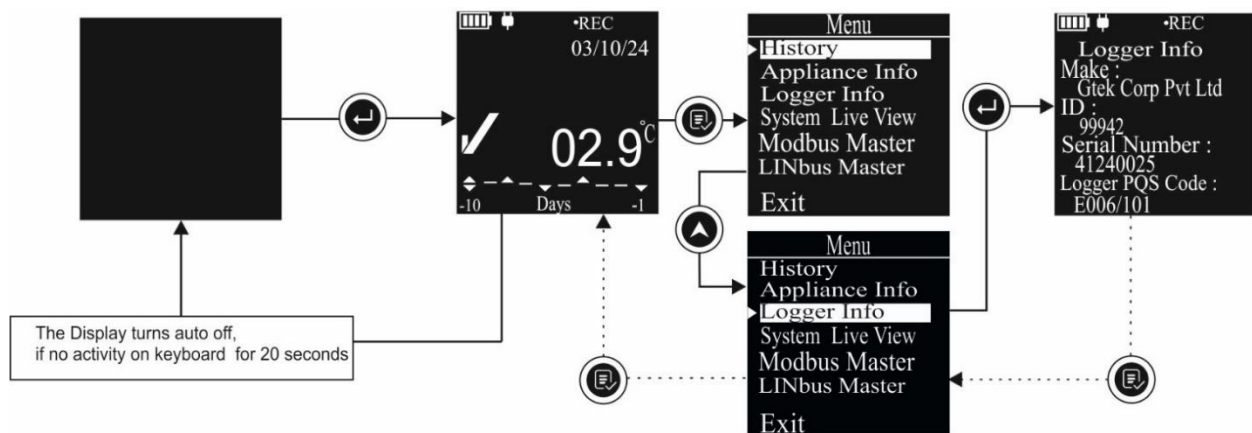

Figure 33 Logger Information Menu
- Access the main Menu and select the Logger Info option as per the steps shown in figure 33.
Note: The information shown in figure 33 are for example purpose only.